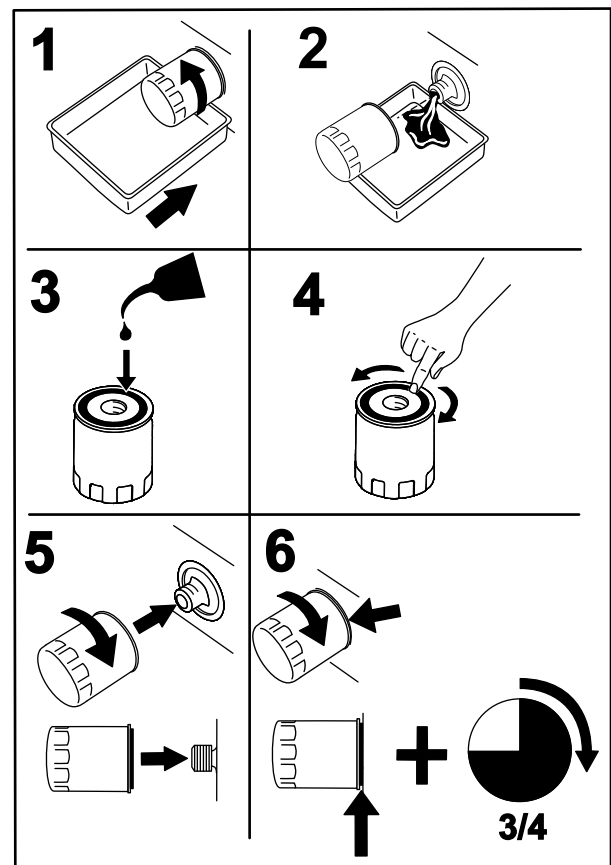

Figure 50
- Change the engine oil filter (Figure 50).